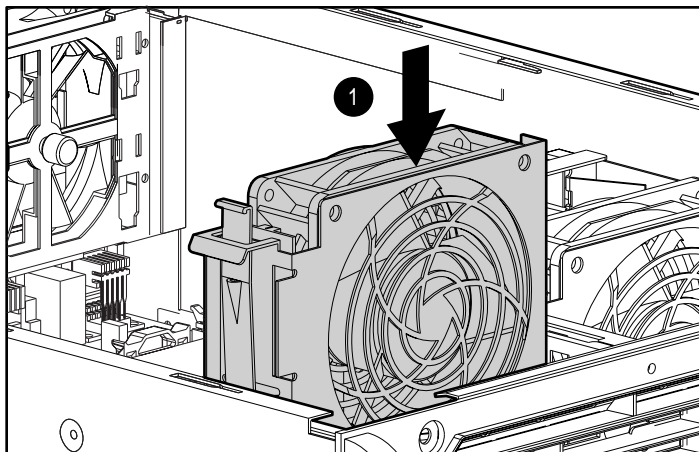
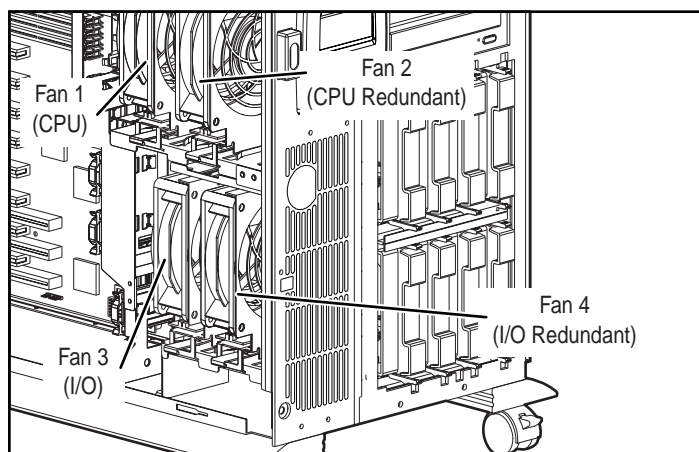

Figure 4-8. Installing fan
Figure 4-9. Fan slot location
2. Install fan as shown in Figure 4-8. Refer to Figures 4-9 and 4-10 for fan slot location and fan header location.